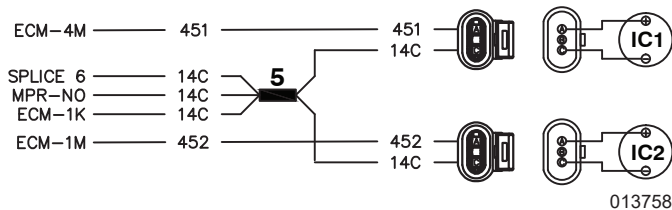

Figure 7-4. Ignition Coil Wiring Diagram
- See Figure 7-4. Attach positive (+) test lead to primary wire terminal 451 to measure resistance across coil number 1 and wire 452 to measure resistance across coil number 2.